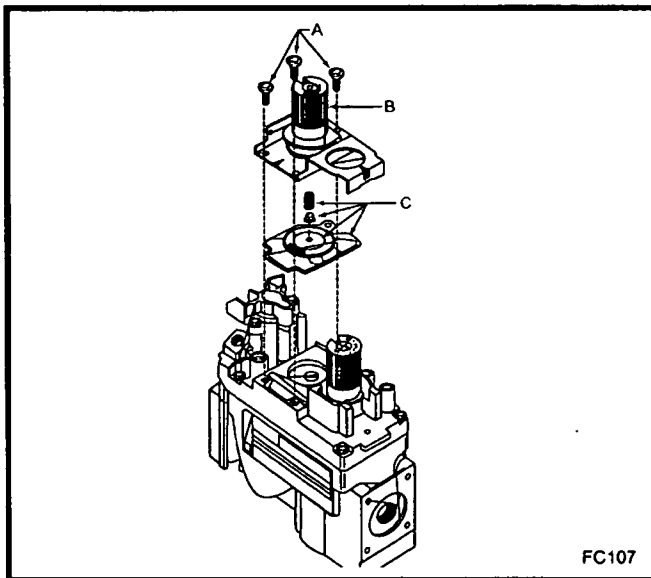

Fig. 56 Remove valve regulator.
12. Open the control panel and remove the cover by removing two (2) screws. While holding the valve cover plate with one hand, disconnect the wiring to the switch and the pilot indicator. **NOTE:** Do not allow the valve cover plate to hang from the pilot wires as this could damage the wires. Remove the extension knob(s). Replace the valve regulator.
13. Using the TORX T20 bit remove and discard the three (3) pressure regulator mounting screws (A), pressure regulator tower (B) and the spring and diaphragm assembly (C). (Fig. 56)